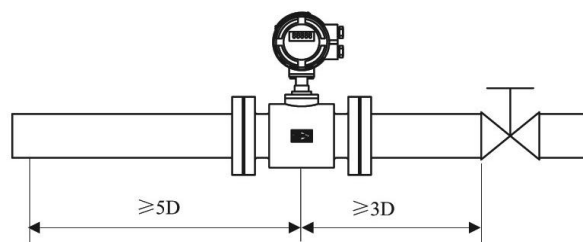
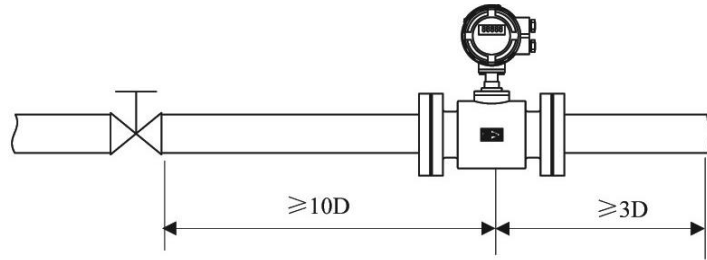

Figure 8
Figure 9
(1) Position
(2) Avoid magnetic field interference
(3) Straight pipe length
- In order to ensure the measurement accuracy of flowmeter, it is recommended that the length of the sensor upstream pipe section should be at least 5 times the diameter ($5D$) and the downstream straight pipe length should be at least 3 times the diameter ($3D$). (See Figure 8, Figure 9)
(4) Maintenance space
(5) Pipes that do not allow flow to be interrupted on the process